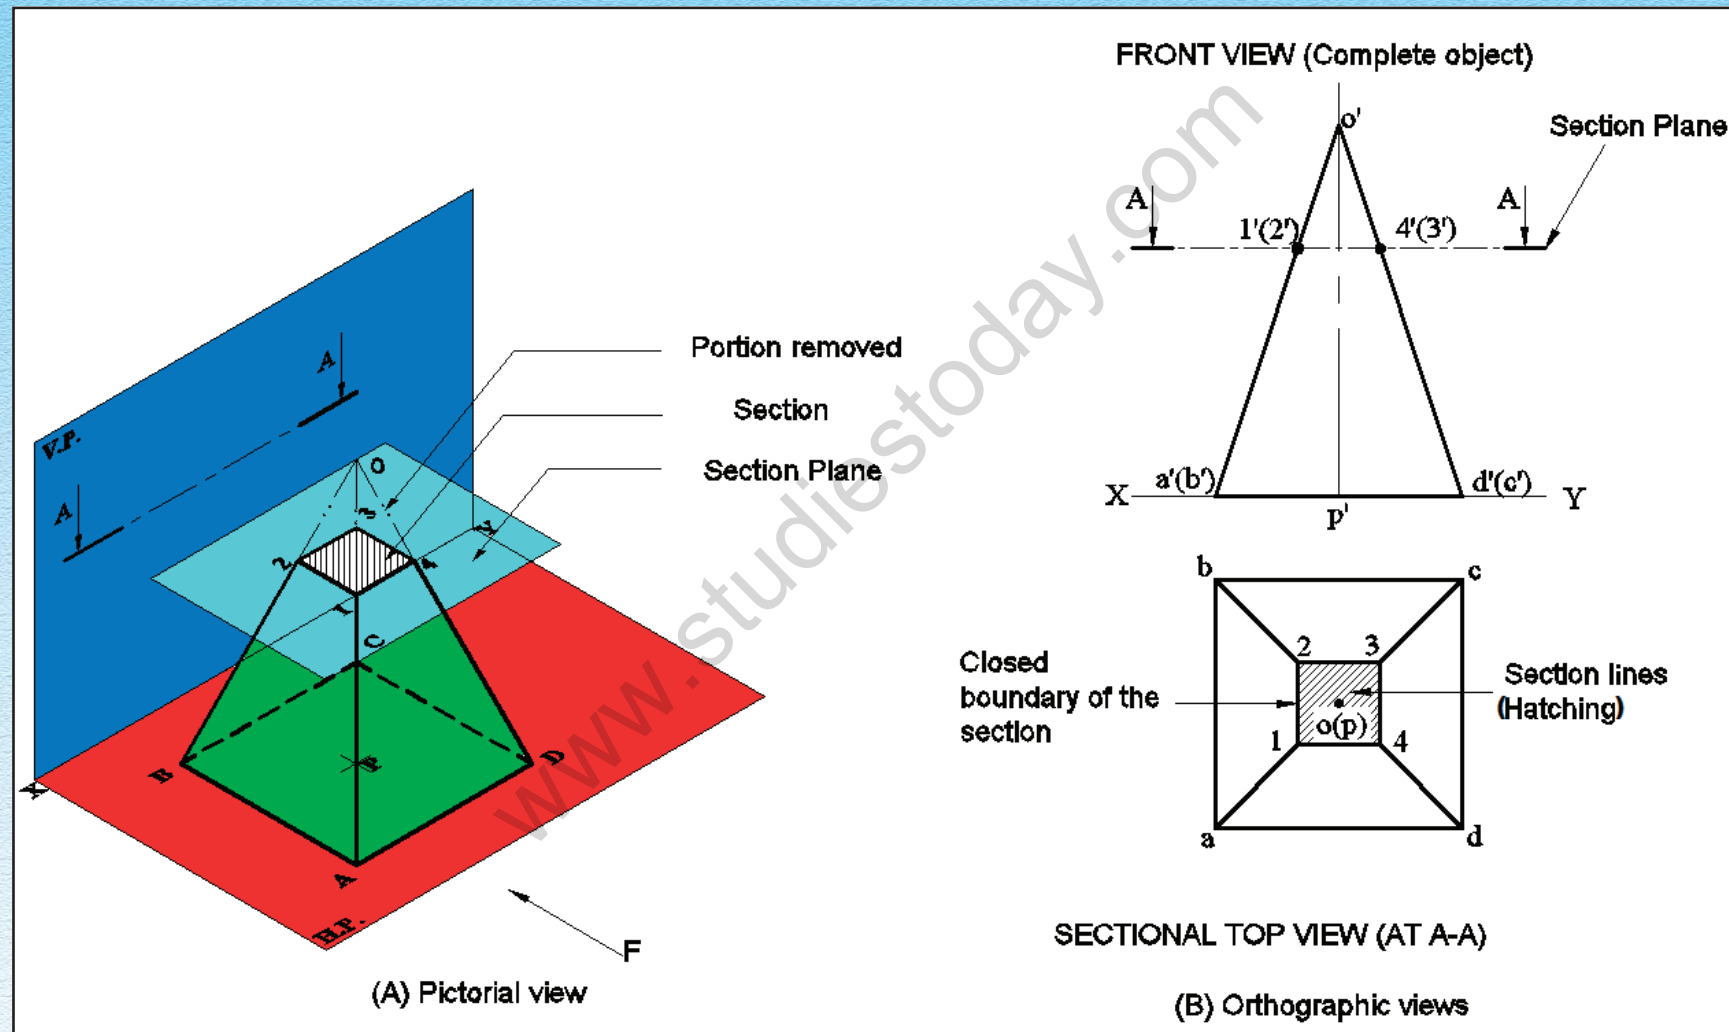

Fig. 5.6
The cutting plane is shown in the orthographic view in Fig. 5.6 (B) where it appears as an edge. This edge is represented as a combination of "Chain Thin" lines as shown clearly in the Fig. 5.7.
As mentioned earlier, this orthographic view shows the surface which has been imaginarily cut or exposed, i.e. the section and also shows the remaining portion of the object. It can be identified with the pulp of the apple alongwith its seeds which is visible after it is cut. Fig. 5.6 shows the pictorial as well as the sectional Top (orthographic) view of a square pyramid.
Drawing of these views is an extension of projection of solids. Hence, the procedure explained in the previous chapter is followed here also. To understand the basic technique, let us consider the example of a square pyramid which is cut by a horizontal section plane as shown in Fig. 5.6.